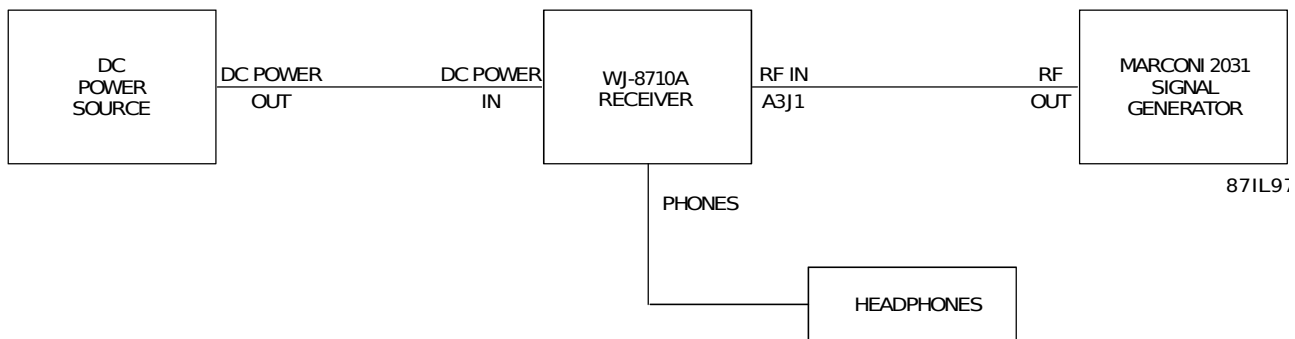

Figure 7-1. Power Consumption Performance Test Equipment Connection
1. Connect the WJ-8710A Receiver and test equipment as illustrated in **Figure 7-1**.